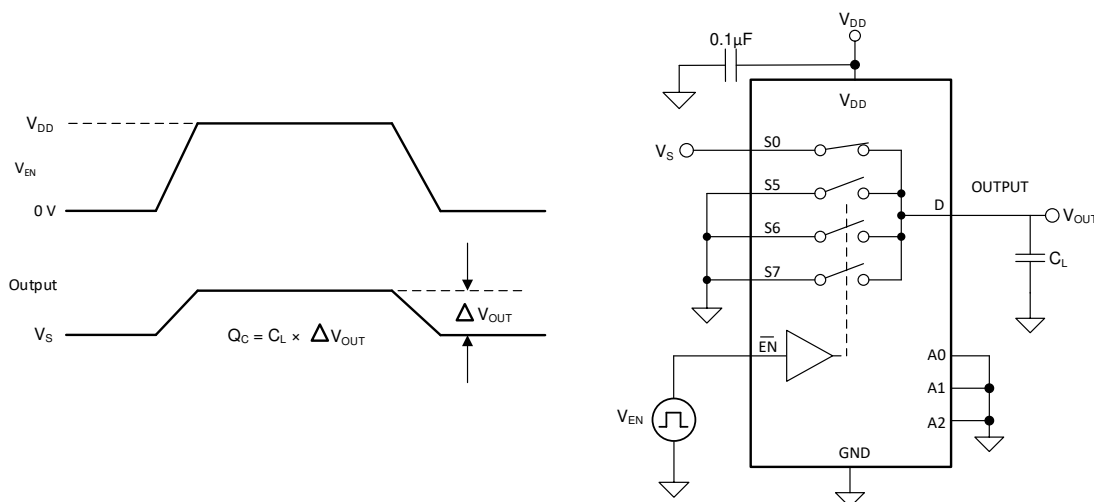

Figure 7-7. Charge-Injection Measurement Setup
The TMUX1308A and TMUX1309A device have a transmission-gate topology. Any mismatch in capacitance between the NMOS and PMOS transistors results in a charge injected into the drain or source during the falling or rising edge of the gate signal. The amount of charge injected into the source or drain of the device is known as charge injection, and is denoted by the symbol Q_C . Figure 7-7 shows the setup used to measure charge injection from source (S_x) to drain (D).